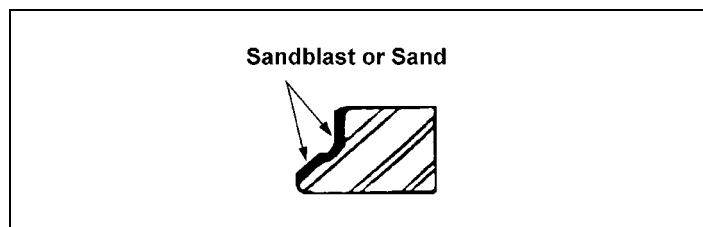

Figure 3 – Sanding the Clamping Ring
- a. Sandblast or sand the clamping ring to white metal as shown in Figure 3.